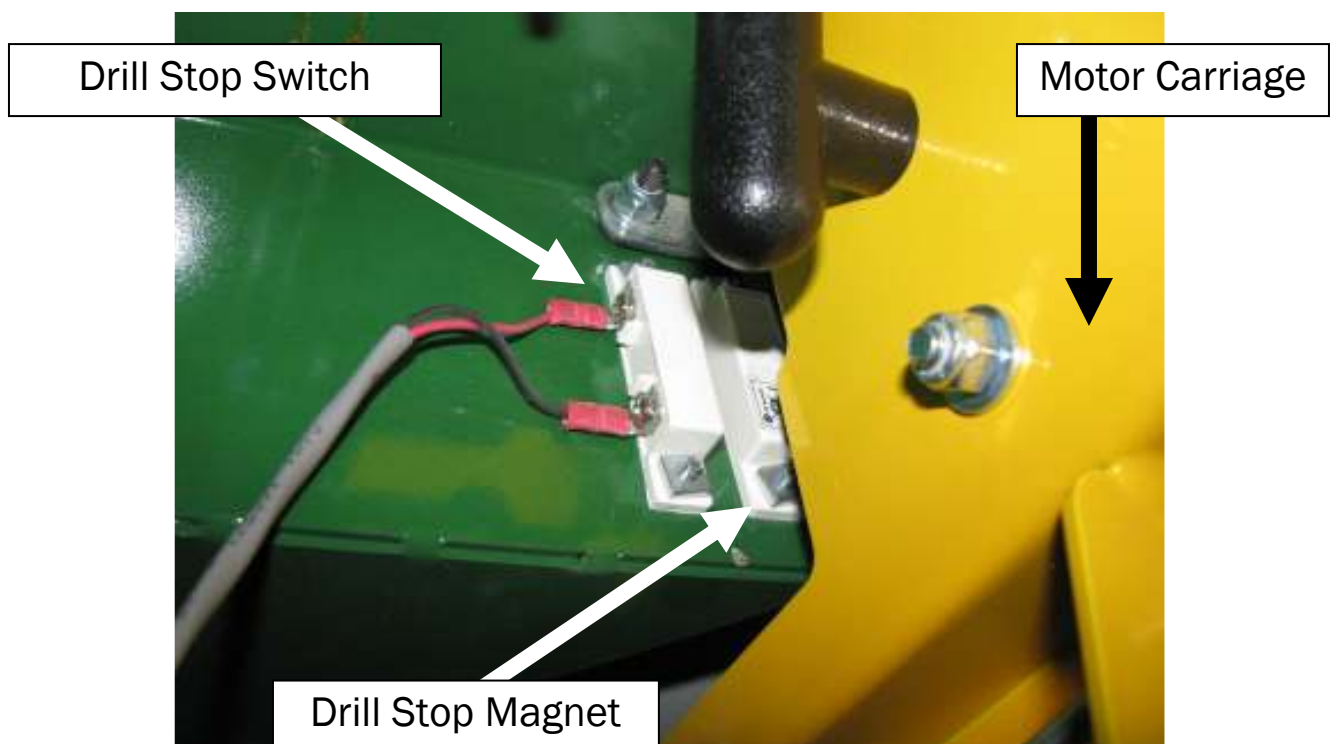

Figure 20
2. The Drill Stop Switch and magnet are located inside the machine on the back side of the Face Plate, slightly to the left of the Pilot Drill Hole. **See fig. 20**